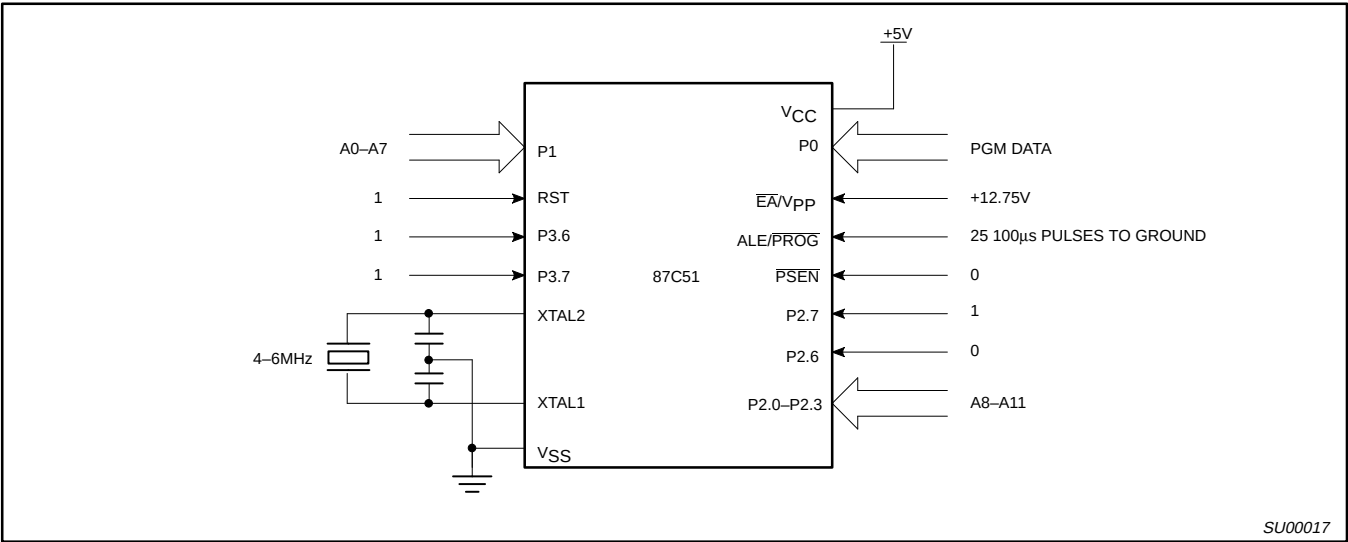
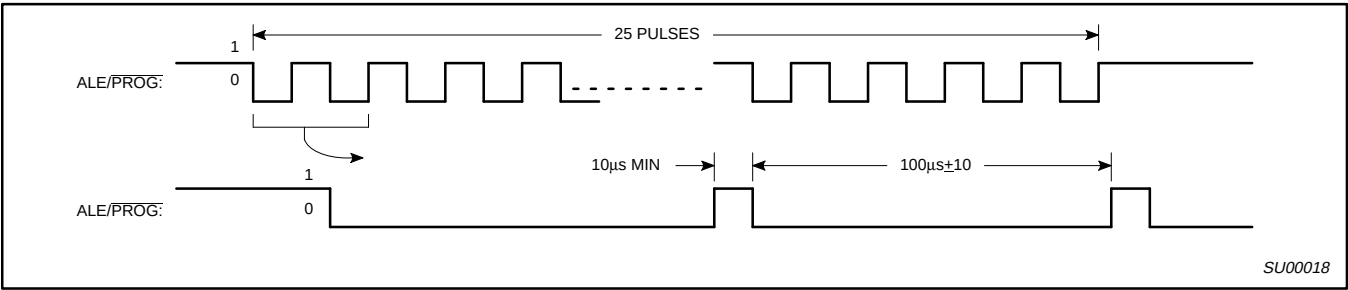
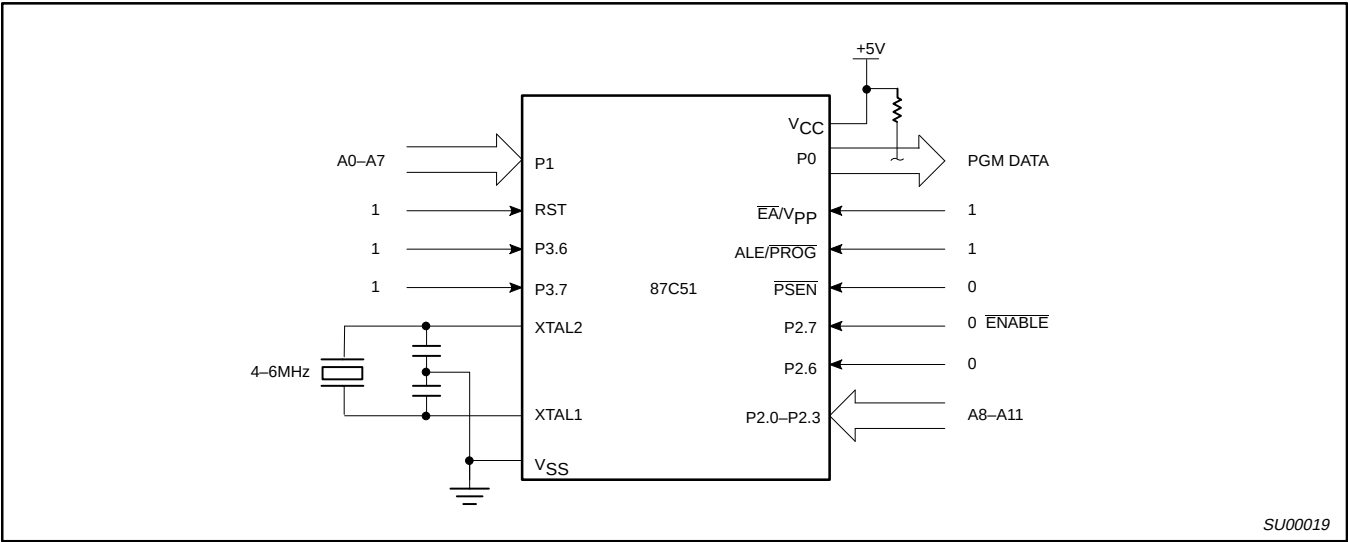

Figure 13. Programming Configuration
Figure 14. PROG Waveform
Figure 15. Program Verification
Table 3 shows the logic levels for reading the signature bytes, and for programming the program memory, the encryption table, and the security bits. The circuit configuration and waveforms for quick-pulse programming are shown in Figures 13 and 14. Figure 15 shows the circuit configuration for normal program memory verification.
The setup for microcontroller quick-pulse programming is shown in Figure 13. Note that the 87C51 is running with a 4 to 6MHz oscillator. The reason the oscillator needs to be running is that the device is executing internal address and program data transfers.
The address of the EPROM location to be programmed is applied to ports 1 and 2, as shown in Figure 13. The code byte to be programmed into that location is applied to port 0. RST, $\overline{PSEN}$ and pins of ports 2 and 3 specified in Table 3 are held at the 'Program Code Data' levels indicated in Table 3. The ALE/PROG is pulsed low 25 times as shown in Figure 14.
If security bit 2 has not been programmed, the on-chip program memory can be read out for program verification. The address of the program memory locations to be read is applied to ports 1 and 2 as shown in Figure 15. The other pins are held at the 'Verify Code Data' levels indicated in Table 3. The contents of the address location will be emitted on port 0. External pull-ups are required on port 0 for this operation.
* FOR PROGRAMMING VERIFICATION SEE FIGURE 13.
FOR VERIFICATION CONDITIONS SEE FIGURE 15.